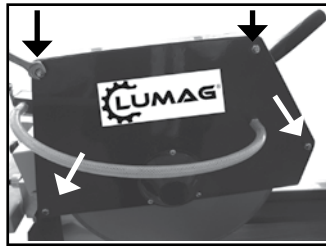

Fig. 2
3. **Fig. 2** Loosen and remove the four screws on the blade protection cover (1) and remove the protective cover.